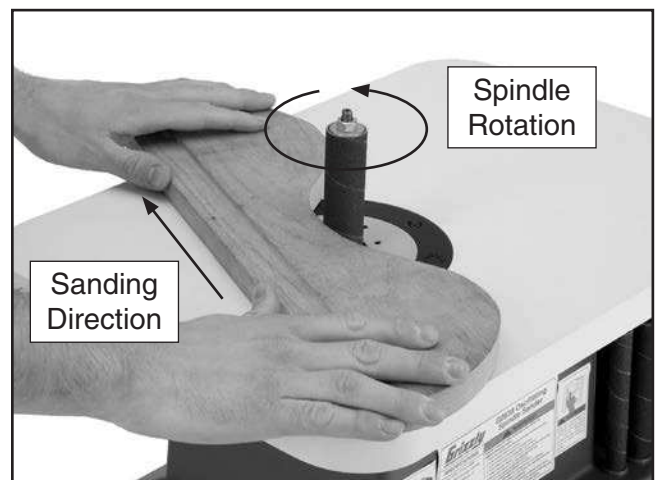

Figure 10. Sanding.
3. Using both hands, guide the workpiece against the sanding sleeve in a right-to-left direction, as shown in **Figure 10**. DO NOT force the workpiece against the sanding sleeve.